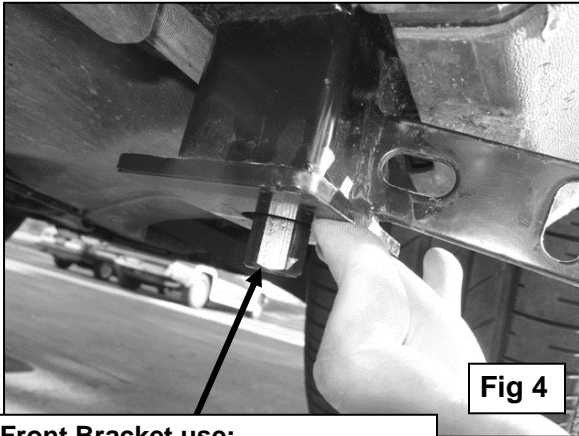

Fig 4
- Select (1) Front Mounting Bracket, (**Figure 3**). Secure the front Mounting Bracket to the Bolt Plate with (1) 12mm Lock Washer, (1) 12mm Flat Washer and (1) 12mm Coupling (long) Hex Nut, (**Figure 4**). Do not tighten hardware at this time. **NOTE:** Refer to **Figure 3** to help identify brackets.